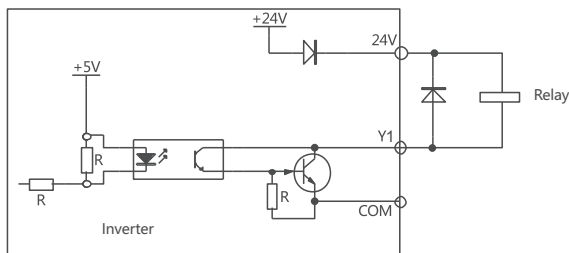

Figure 4.17 Multi-function output terminal wiring mode 1
(1) The multifunction output terminal Y1 can use the +24V power supply inside the inverter, and the wiring method is shown in Figure 4.17.